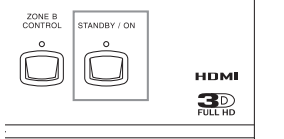

Figure 1
1. Press the STANDBY/ON Push-button on the Front Panel or press the  (Power) Push-button on the Remote Control to switch On the MX151. Refer to figures 1 and 7. The Front Panel Information Display will first indicate "McIntosh MX151" followed by "Initializing, Please wait..." and then the last source selected and volume level setting. Refer to figures 2, 3 and 4. The LED above the Front Panel